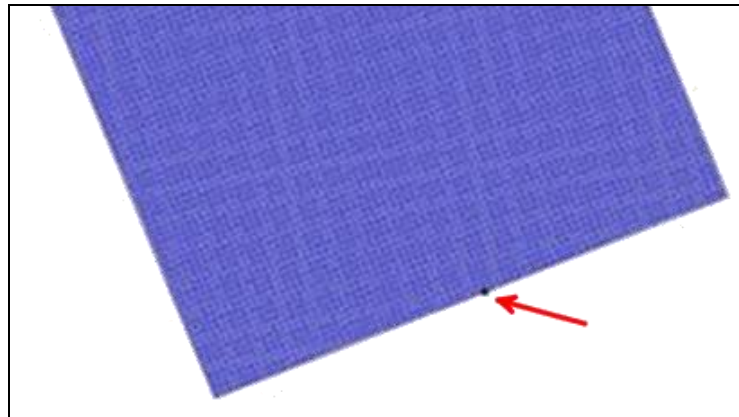

Figure 1 Spectral point location
4. Using the **Create Feature Point**  tool, create a point along the middle of the bottom grid boundary as shown in the Figure 1.